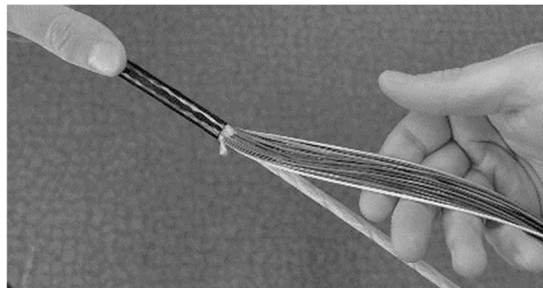

Figure 9 - Unwrap the buffer tubes
4.10 Carefully unwrap the 6 buffer tubes from each other and remove any threads from between the buffer tubes. (Figure 9)